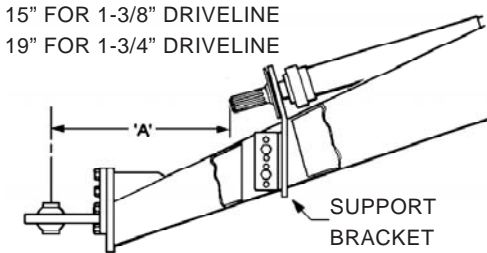

Figure 1-11 Driveline
The correct drive line adjustment is achieved by positioning the carrier bearing support bracket either forward, back, up or down and bearing mount angles up or down (see Figure 1-11 and 1-14). The rear (baler) driveline fits either size front driveline.
5. The PTO shaft bearing mount angles, ANG0027391, are designed to be used with either size (1 3/8" or 1 3/4") drivelines. Use quantity 4 of 1/2 x 1 1/2 bolts, lock washers and nuts, torque nuts to 120 ft. lbs. to secure angles to frame. The 3" flange angle bolts to the baler tongue side plates while the 2 1/2" leg mounts the carrier bearing support bracket, MNT0028883. With the 3" flange towards the front of the baler, dimension 'A' is 19", with angle flanges towards rear of baler, dimension 'A' is 15" (see Figure 1-11). (see parts manual for more information).